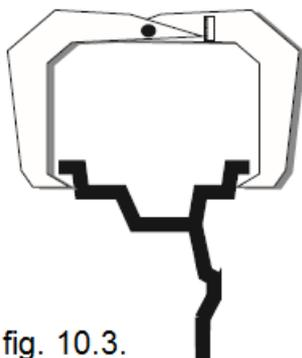

fig. 10.3.
10.3. The rim's width is normally indicated on its markings. If the markings are missing or hard to read, the width can be measured with a special instrument – measurement caliper (fig. 10.3.).